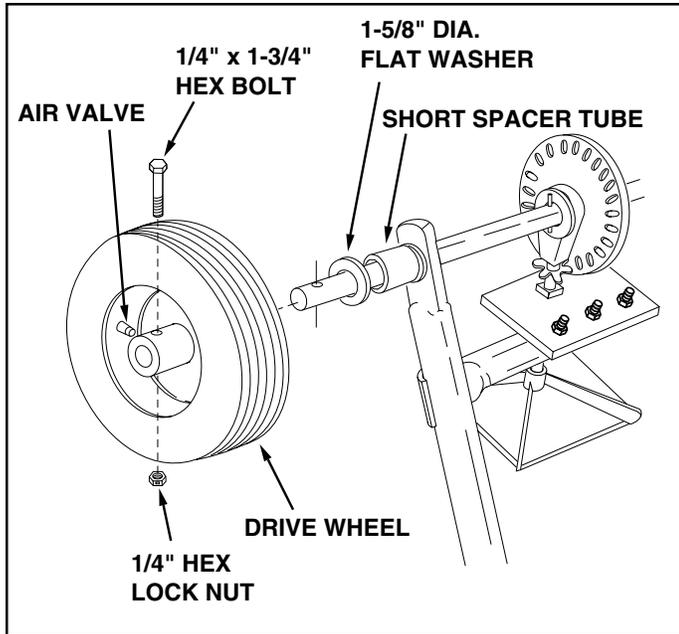

FIGURE 4
9. Assemble the short spacer tube and a 1-5/8" flat washer onto the end of the axle that has the large hole. See figure 4.
10. Place the drive wheel (bolt hole through hub) onto the axle so that the air valve is to the outside. Secure the wheel to the axle with a 1/4" x 1-3/4" hex bolt and a 1/4" hex lock nut. See figure 4.
1. If the axle, slotted gear and sprocket assembly is disassembled, mark down the positions of the parts as they are removed. The drive wheel and sprocket positions in relation to the slotted gear determine which direction the spreader plate will spin. Be sure to reassemble them in their original positions. (Refer to figure 4 on page 5.) Use shim washers (Ref. no. 21 on pages 10 and 11) as needed for minimum backlash. Add grease to gear and sprocket.